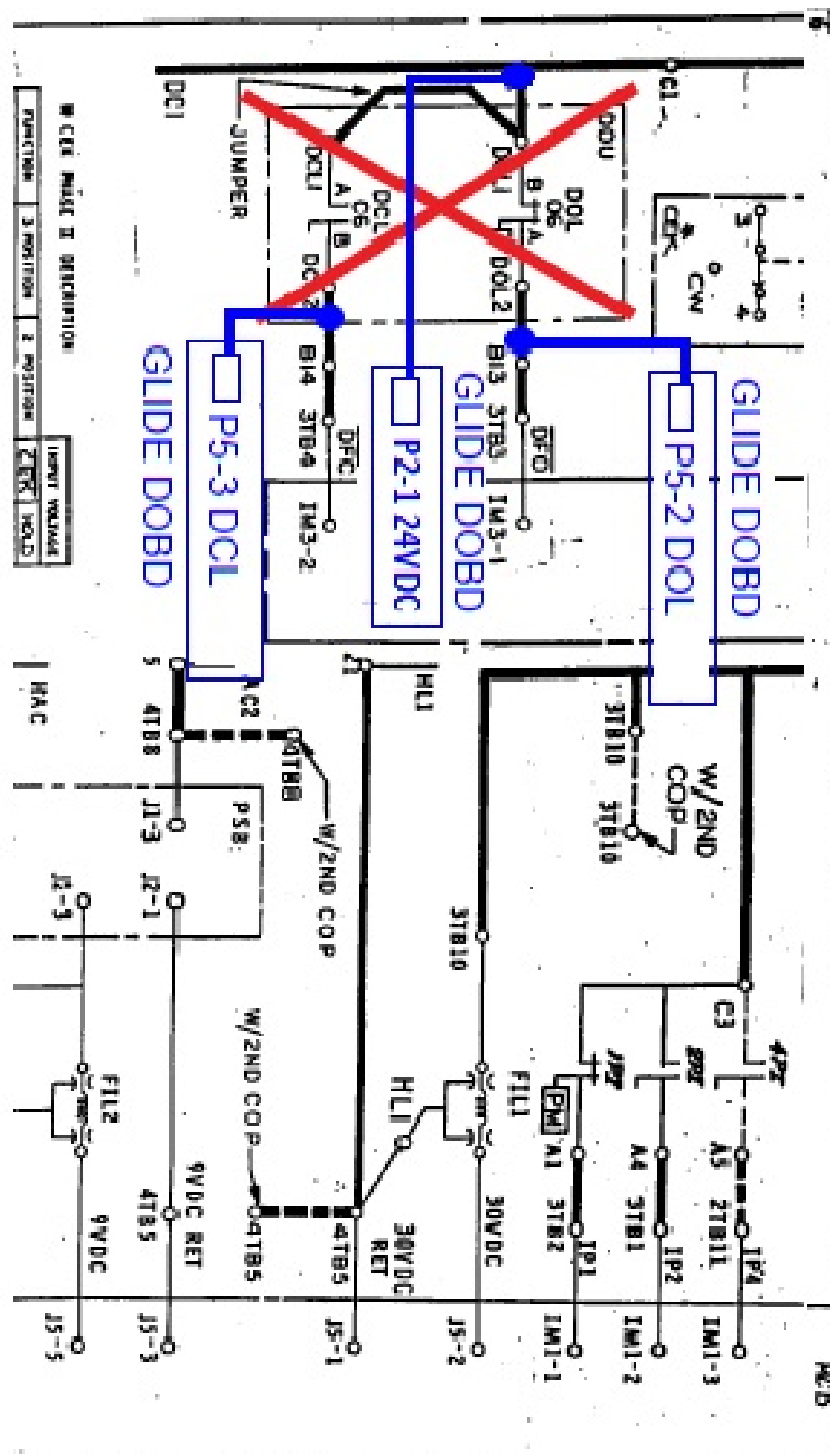

Figure 17: Area 6 of W/D 8-1S7900AS
- **Area 6:** Replacement of existing door operator limits circuits and replacement with Glide A limits. Figure 17